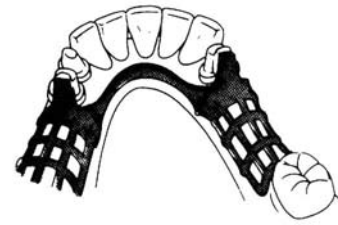

Fig. 19
- Wax the vertical strut directly against the refractory duplication of the male component. Then wax the rest of the framework (Fig. 19).